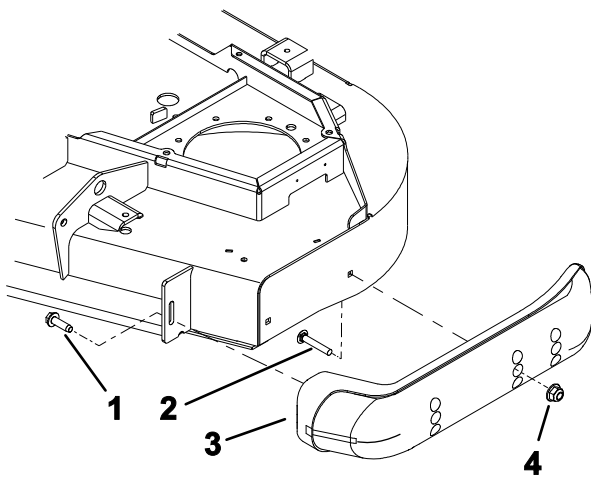

Figure 12
3. Loosen the screw at the front of each skid (Figure 12).
5. Move each skid to the desired position and secure them with the flange-head bolts and nuts (Figure 12).